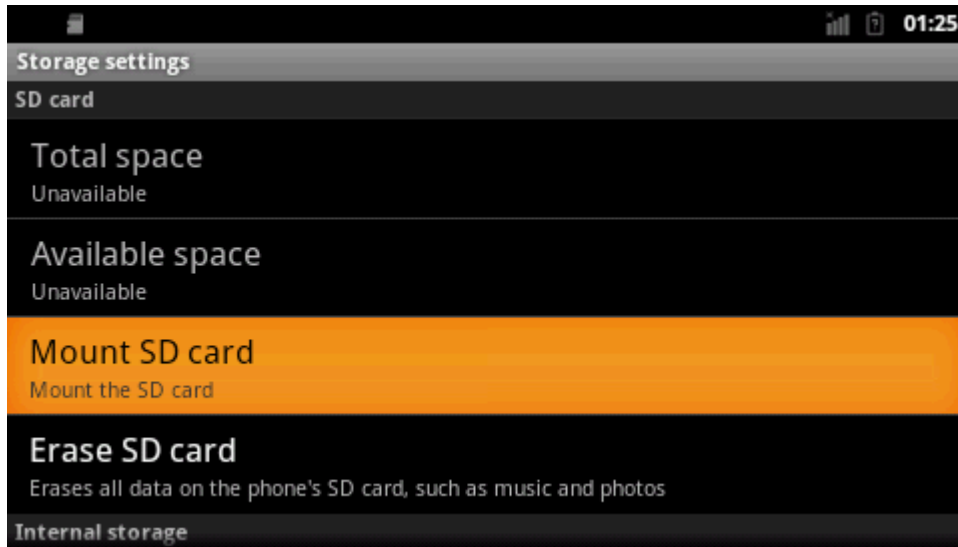

Figure 5-17
(7) Select "Mount SD card". Refer to figure 5-17: